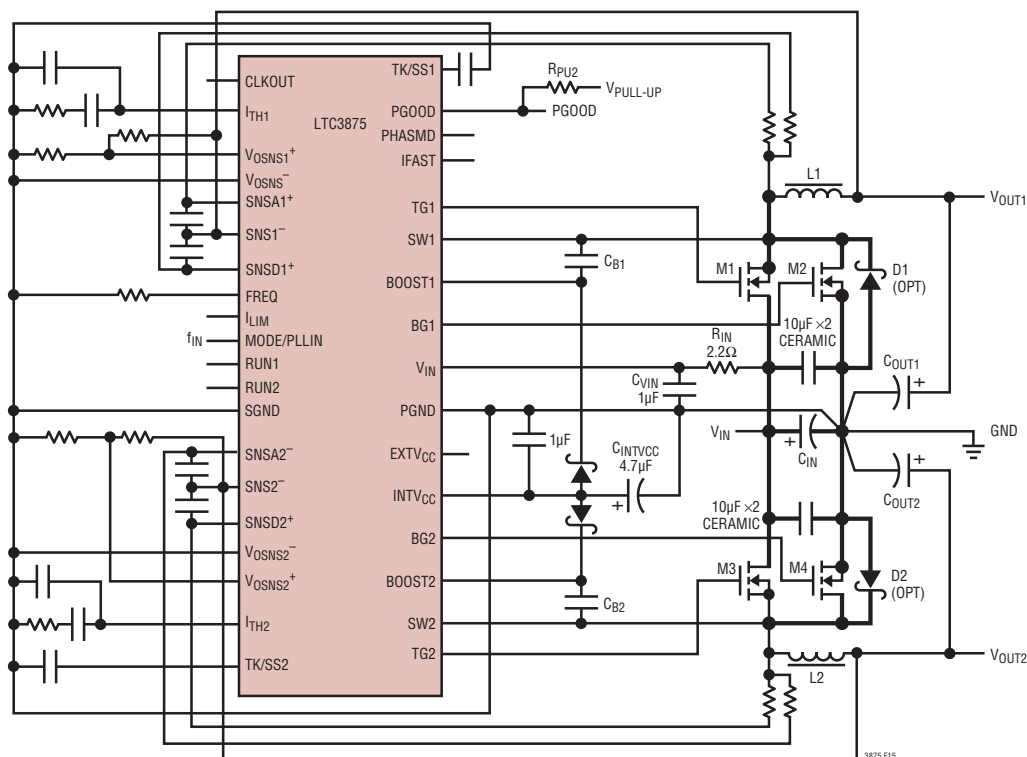
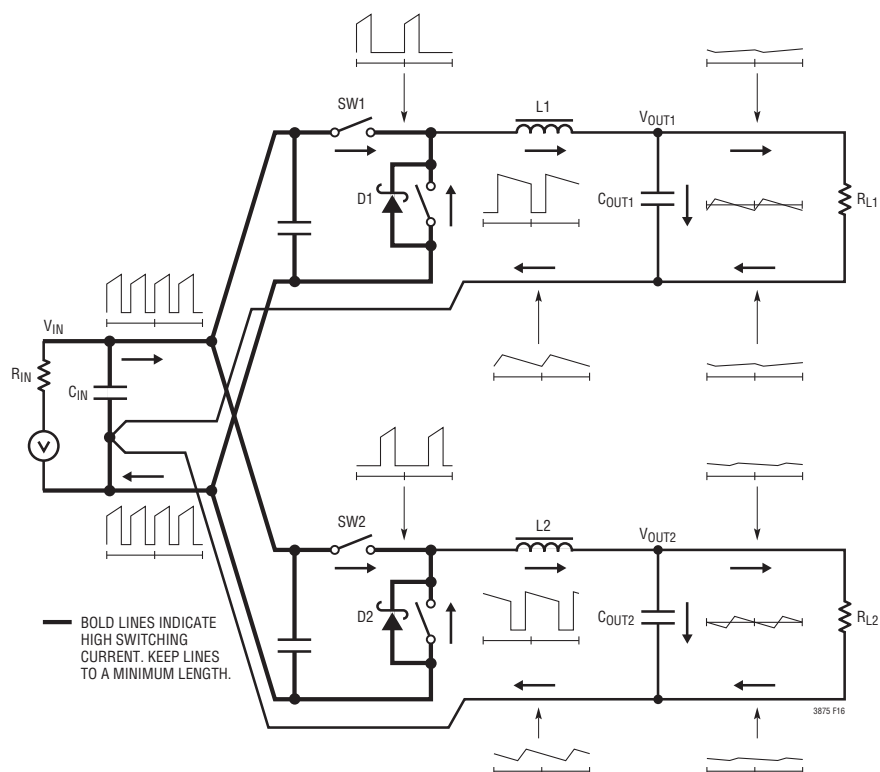

Figure 15. Recommended Printed Circuit Layout Diagram
Figure 16. Branch Current Waveforms
When laying out the printed circuit board, the following checklist should be used to ensure proper operation of the IC. These items are also illustrated graphically in the layout diagram of Figure 15. Figure 16 illustrates the current waveforms present in the various branches of the 2-phase synchronous regulators operating in the continuous mode.
9. The 47pF to 330pF ceramic capacitor between the ITH pin and signal ground should be placed as close as possible to the IC. Figure 16 illustrates all branch currents in a switching regulator. It becomes very clear after studying the current waveforms why it is critical to keep the high switching current paths to a small physical size. High electric and magnetic fields will radiate from these loops just as radio stations transmit signals. The output capacitor ground should return to the negative terminal of the input capacitor and not share a common ground path with any switched current paths. The left half of the circuit gives rise to the noise generated by a switching regulator. The ground terminations of the synchronous MOSFET and Schottky diode should return to the bottom plate(s) of the input capacitor(s) with a short isolated PC trace since very high switched currents are present. External OPTI-LOOP® compensation allows overcompensation for PC layouts which are not optimized but this is not the recommended design procedure.